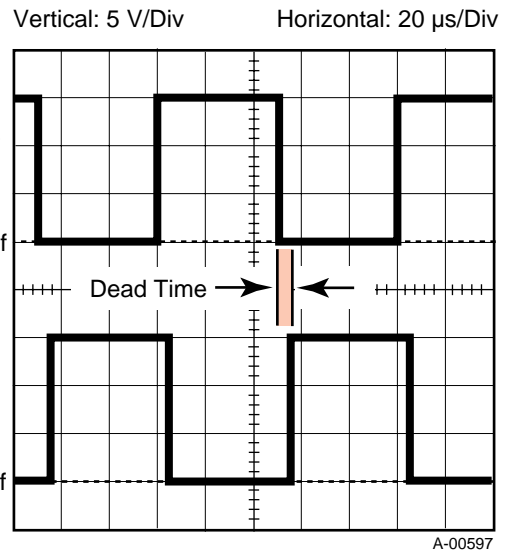

Figure 4-12 Dead Time Between TP7 and TP8
- b. The dead time is the time between the trailing edge of the waveform at TP7 and the leading edge of the waveform at TP8 (refer to Figure 4-12). This time should be approximately 4 μ s.